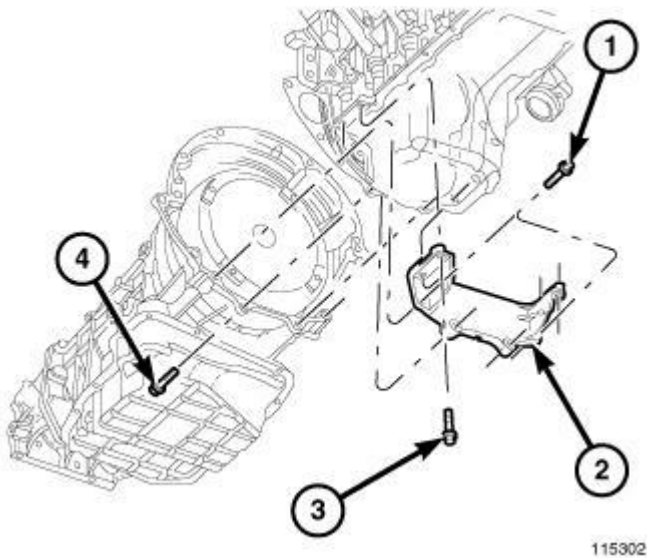

Fig. 112: Structural Cover & Bolts
2. Install all four bolts (1, 2, 3) retaining the cover-to-engine. Refer to **Fig. 112**. DO NOT tighten the bolts at this time.